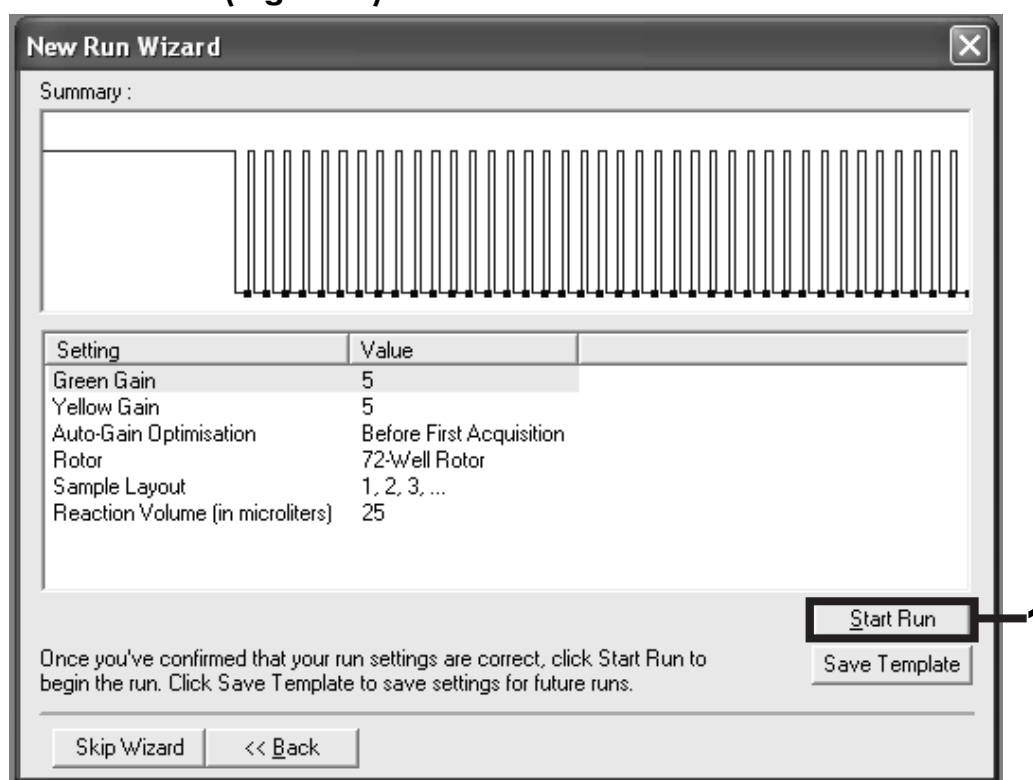

Figure 5. The “New Run Wizard” dialog box.
13. Check the summary and click “Start Run” to save the run file and start the run (Figure 5).